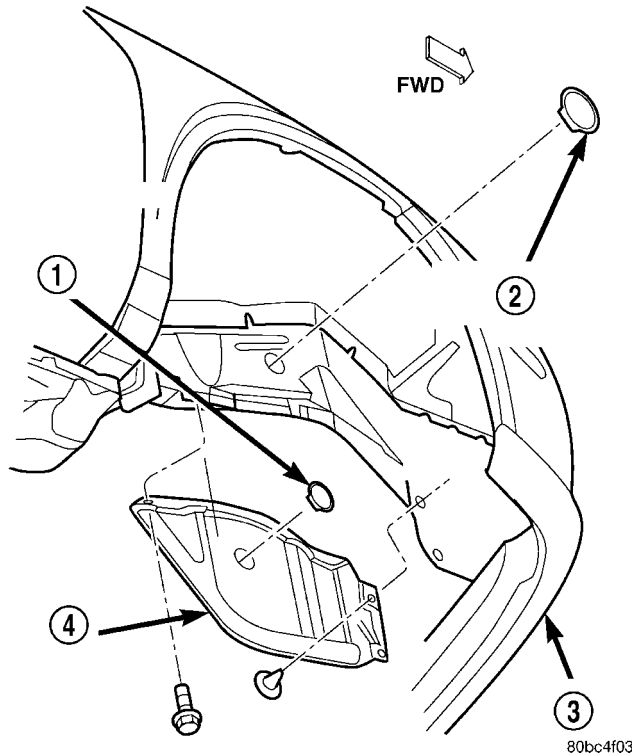

Fig. 96 Engine Mount Bolt Access Plug
- (4) Remove power steering/air conditioning compressor drive belt (Refer to 7 - COOLING/ACCESSORY DRIVE/DRIVE BELTS - REMOVAL).
(5) Raise vehicle on hoist.
(6) Remove accessory drive belt splash shield (Fig. 96).
(7) Remove lower torque strut (Refer to 9 - ENGINE/ENGINE MOUNTING/TORQUE STRUT - REMOVAL).
(8) Lower vehicle.
(9) Position a jack under engine. Raise jack enough to support engine weight.
(10) Remove engine mount through bolt access plug (Fig. 96)
(9) Install mount bolt access plug (Fig. 96).
(10) Remove jack from under engine.
(11) Raise vehicle on hoist.
(12) Install lower torque strut (Refer to 9 - ENGINE/ENGINE MOUNTING/TORQUE STRUT - INSTALLATION).
(13) Install power steering/air conditioning compressor drive belt (Refer to 7 - COOLING/ACCESSORY DRIVE/DRIVE BELTS - INSTALLATION).
(14) Install accessory drive belt splash shield (Fig. 96).
(15) Lower vehicle.
(16) Install upper torque strut (Refer to 9 - ENGINE/ENGINE MOUNTING/TORQUE STRUT - INSTALLATION).
(17) Install fastener securing ground strap to engine mount bracket.
(18) Connect negative battery cable.
(19) Perform torque strut adjustment procedure (Refer to 9 - ENGINE/ENGINE MOUNTING/TORQUE STRUT - ADJUSTMENTS).